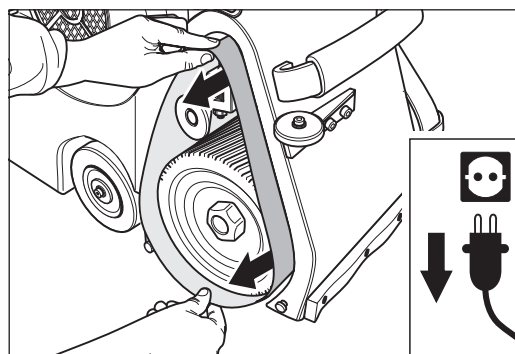

Fig. 59 Remove the sanding belt.
- 5 Remove the sanding belt from the tensioning roller and the sanding drum (Fig. 59).